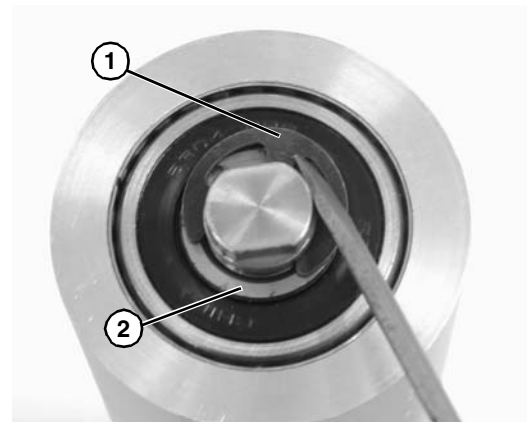

Figure 52
5. Remove the pulley shaft assembly: remove the clip ring (**Figure 52, item 1**) and washer (**Figure 52, item 2**) from one side of the pulley assembly.